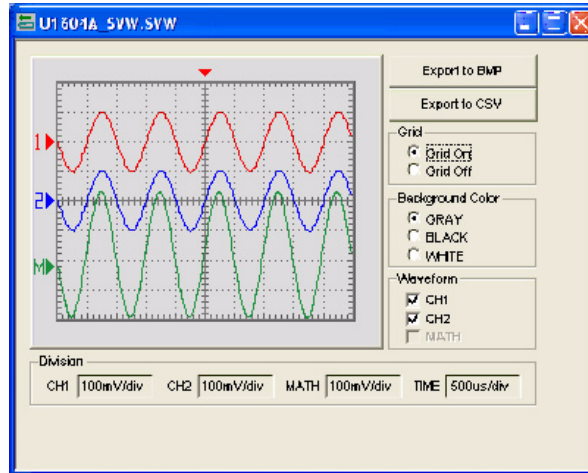

Figure 21 A recalled waveform with display settings
- 3 Click Open to display the saved waveform with setup's settings. The setups's settings include vertical sensitivity (time/div), horizontal scale factor (volt/div) for each channel and Math waveform, see Figure 21.